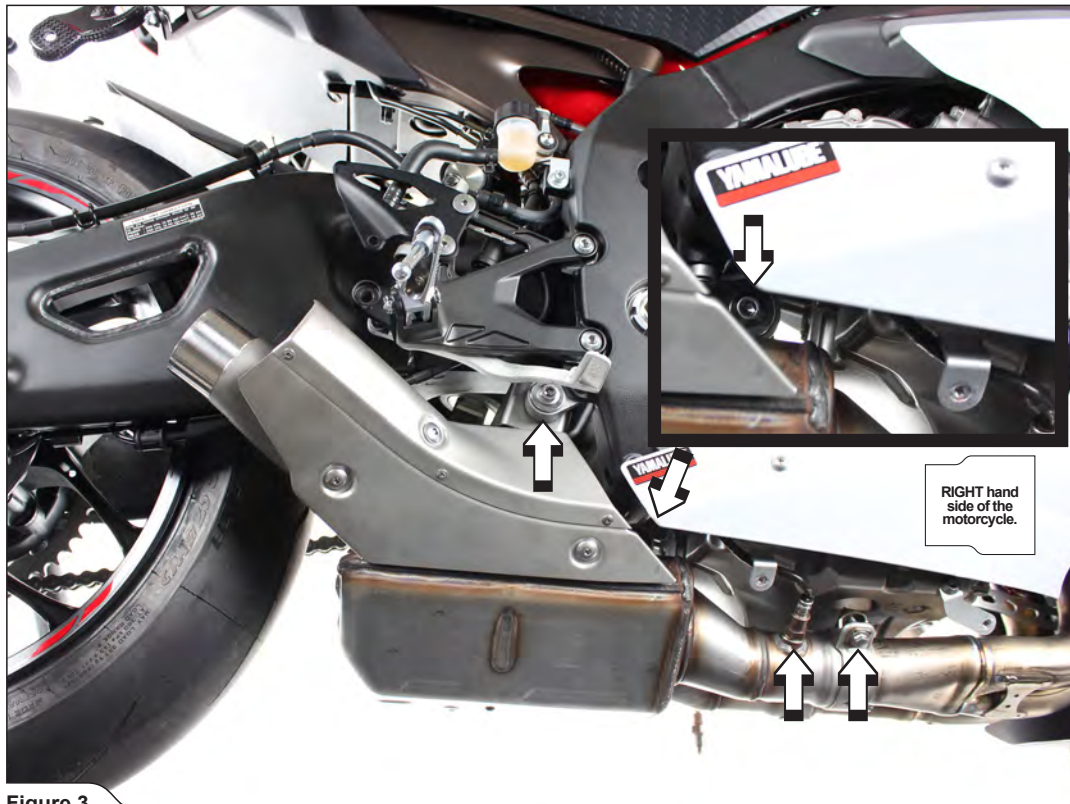

Figure 3
5. Unscrew marked bracket bolts on both sides of the motorcycle and carefully remove stock collector off the motorcycle (Figure 3, 4).